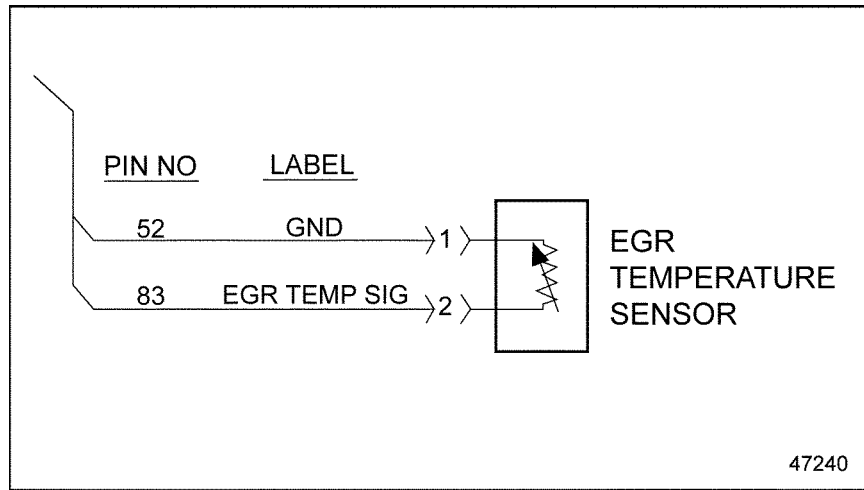

Figure 40-1 EGR Temperature Sensor
- [a] If the voltage is between 2.75 and 3.25 volts, repair the open circuit between pin 1 of the EGR Temperature Sensor harness connector and pin 52 of the 120-pin MCM connector. See Figure 40-1. Refer to section 40.1.1.1.
- [b] If the voltage is less than 2.75 volts, repair the open circuit between pin 2 of the EGR Temperature Sensor harness connector and pin 83 of the 120-pin MCM connector. See Figure 40-1. Refer to section 40.1.1.1.